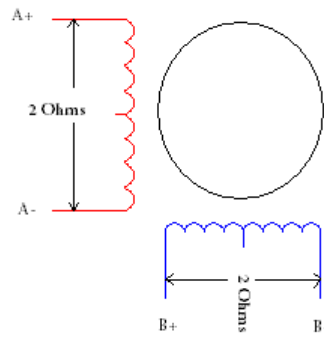

Fig 4 - 6 wire, Serial connected
2. 6-wire motor (Serial Connected): In a 6-wire serially connected stepper motor the center tap is not used. Connect one motor phase to A + and A – on the drive, and the other motor phase to B+ and B- on the drive. (Fig. 4)